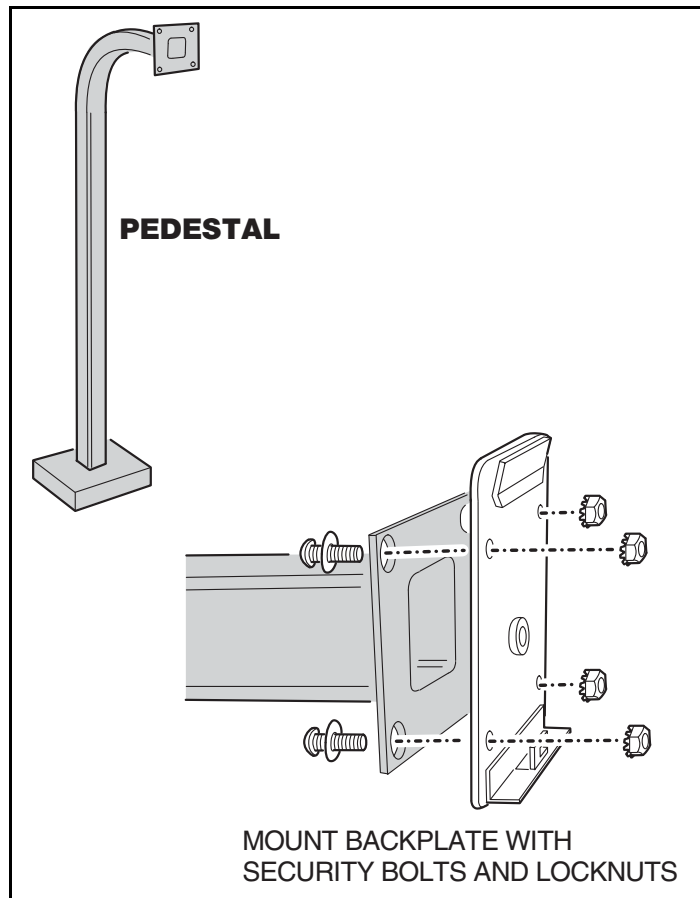

Figure 3. Pedestal Mounting Keypad Backplate
- ☐ Use four security bolts and locking nuts to secure the keypad's backplate to the pedestal (see Figure 3).